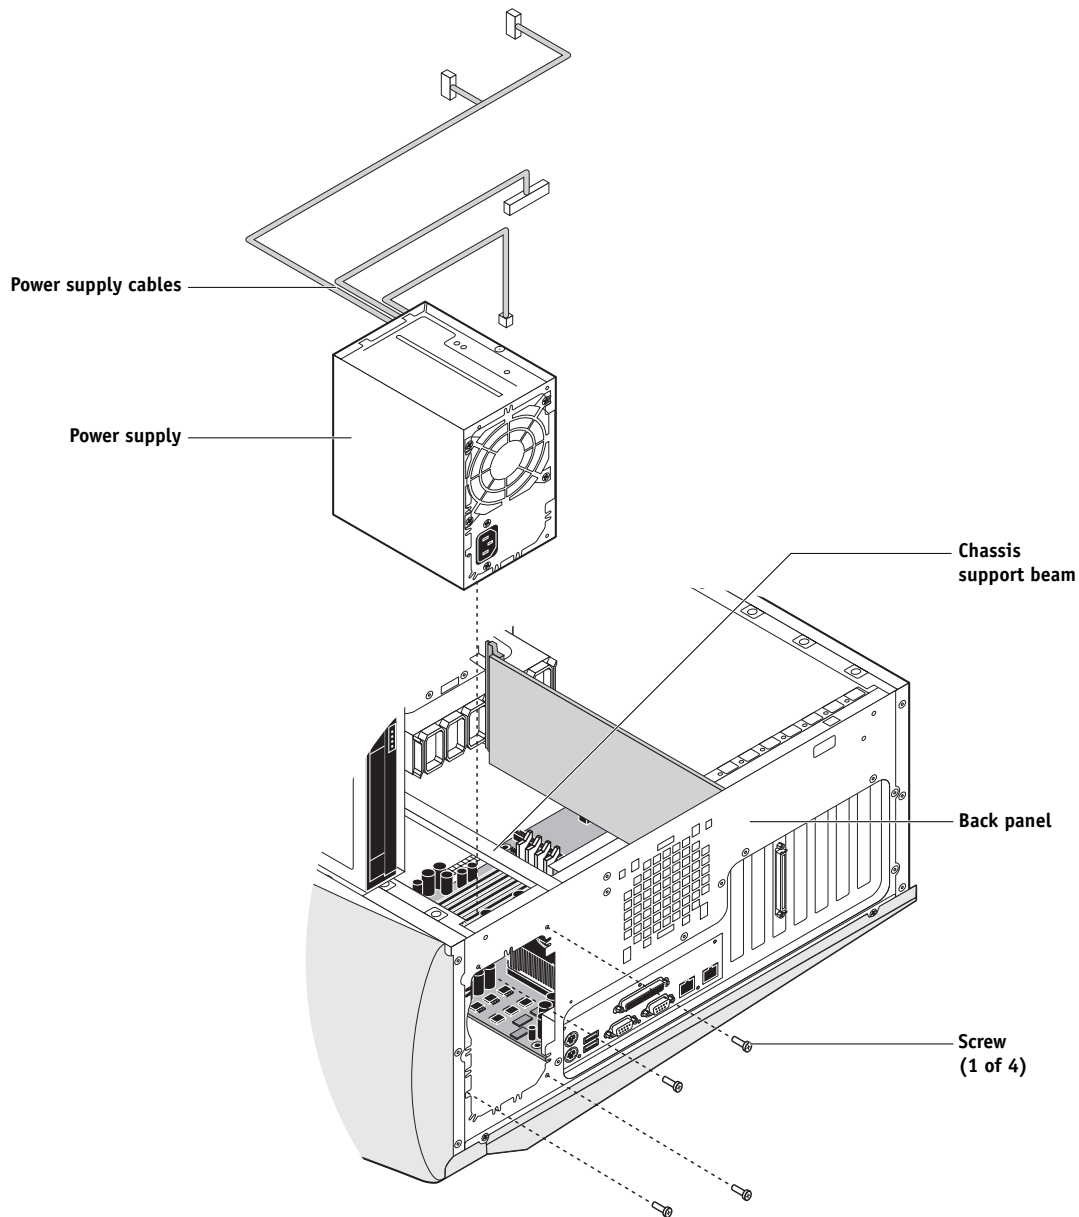

FIGURE 4-24 Removing the power supply
7. **Remove three of the four screws that attach the power supply to the chassis (see Figure 4-24 on page 4-45).**
2. **Attach the power supply to the chassis from the outside with the four screws you removed earlier (see Figure 4-24 on page 4-45).**
7. Locate the reusable tie wrap you removed earlier and use it to attach the loose section of the power cable to the chassis support beam (see Figure 4-24 on page 4-45).